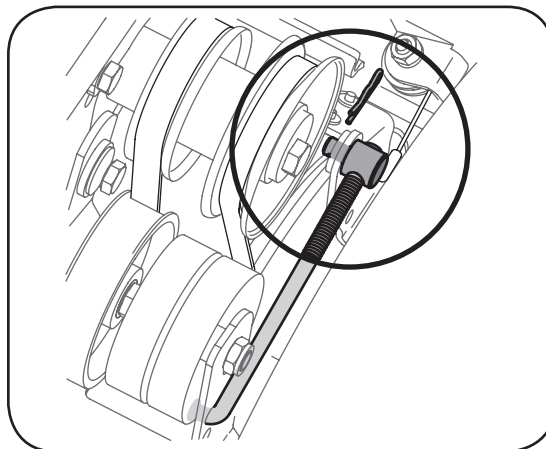

Figure 26
4. Remove the hairpin clip and flat washer from the ferrule in order to disconnect the auger idler rod from the brake bracket assembly. See Figure 26.